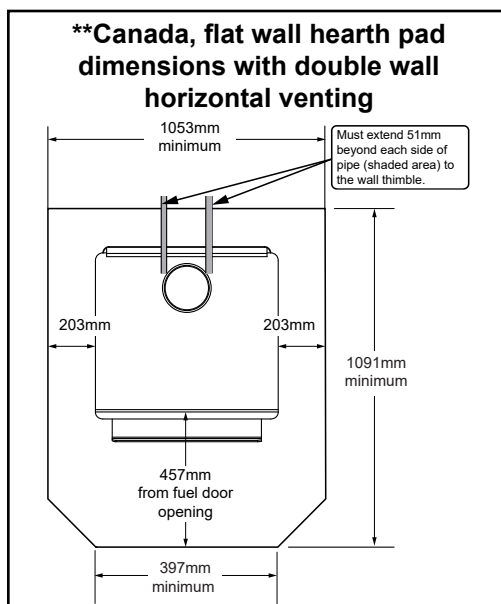

Figure 9.2 - **This dimension will vary depending installation.
In Canada, similar floor protection must be provided 18 inches (457mm) in front and 8 inches (203mm) from the sides and rear of the appliance unless the hearth pad is placed against the wall (**Figure 9.2**). Then the clearance may be reduced using double wall pipe and the **Clearance to Combustibles** table listed on page 10.
***Exception:** Non-combustible floor protector must extend beneath the flue pipe when installed with horizontal venting and extend 2 inches (51mm) beyond each side; **See Figure 9.2**